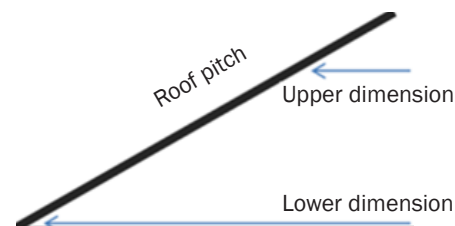

Fig. 9
- Transfer the roof pitch once to the insulating board using a measurement (Fig. 9) or a sliding bevel (item no. 36 82 00) and place it on the bearing rail (6).
- Pull out the cutting bow, loosen the set screw (8) for the bearing rail and lift the support (6) with the insulating board until the wire of the cutting bow is aligned with the marking on the insulating board.
- Fix the set screw (8) and guide the cutting wire through the board.